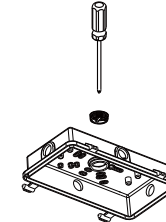

Figure 2-2
2. Loosen the 3/4 plug on the driver box cover by screwdriver; Figure 2-2